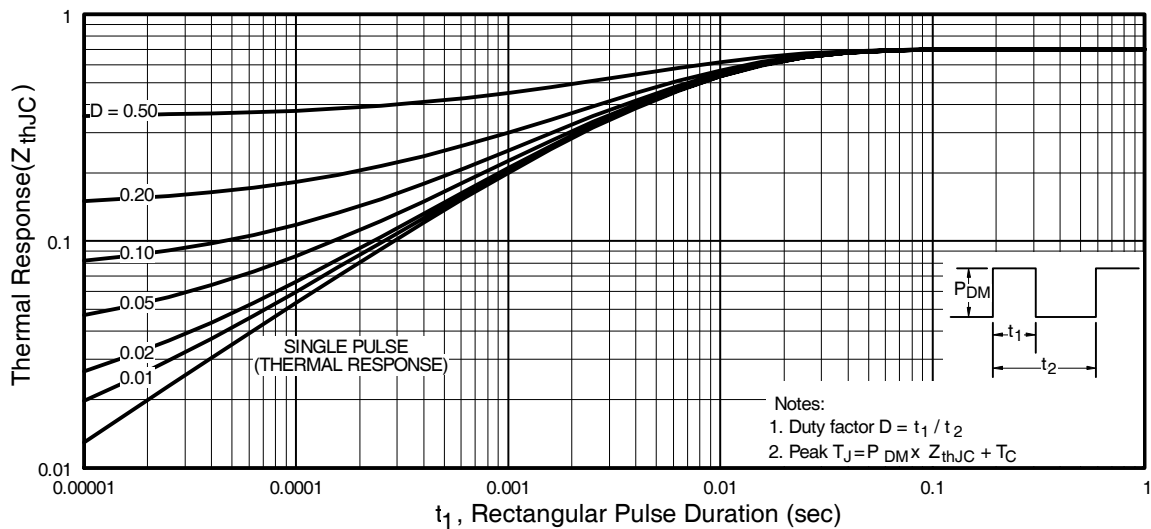

Fig 11. Maximum Effective Transient Thermal Impedance, Junction-to-Case
① Repetitive rating; pulse width limited by max. junction temperature. (See Fig. 11)
② Starting $T_J = 25^\circ\text{C}$, $L = 1.9\text{mH}$